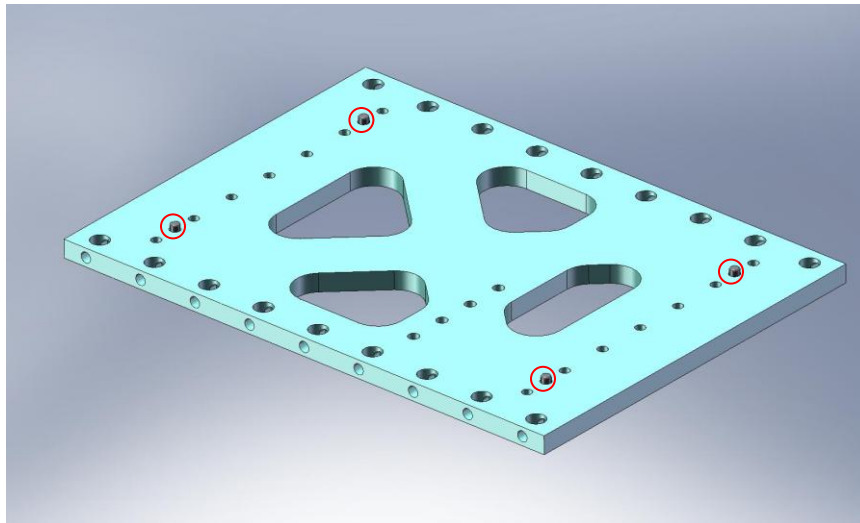

Figure 2.5. Dowel pins pressed into side of Tangential Rib (D071070).
- Press (4) 3/8"x.75" dowel pins (McMaster-Carr #90145A622) into each of (3) **Rib, Tan, Flexure Cen** plates (D071070). The pins should all stand .25" proud of the plate surface, as shown in Figure 2.5.